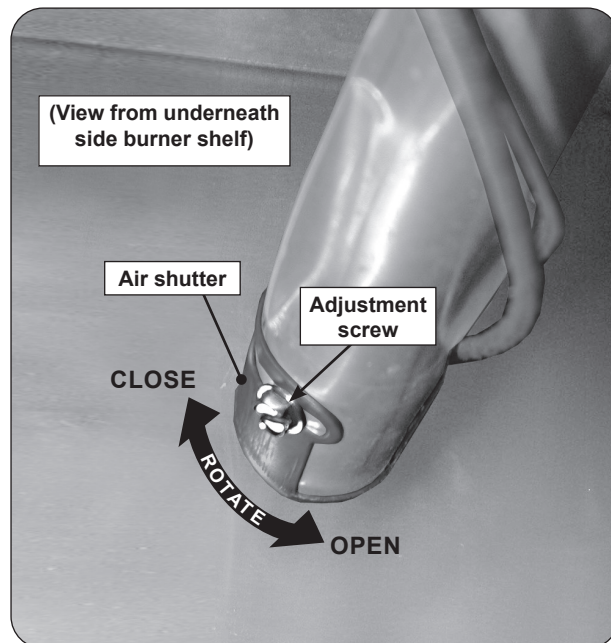

Fig. 44-1 Side burner air shutter adjustment detail
2. Loosen the adjustment screw with a flathead screwdriver, then carefully rotate the shutter to open or close it. See Fig. 44-1 for details.